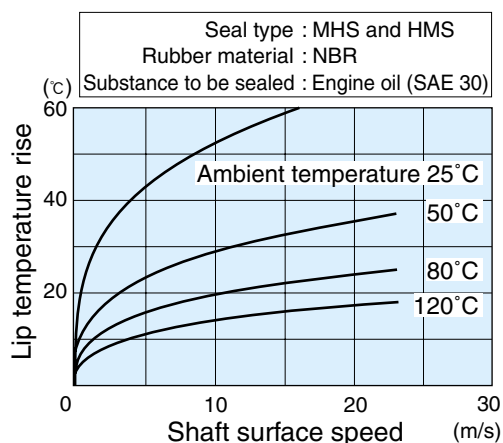

Fig. 1.6.2 Estimated lip temperature rise curves
- ② Determine the supposed ambient temperature
- ③ Find the point at which the ambient temperature curve meets the calculated shaft surface speed in Fig. 1.6.2
- ④ Read the ordinate value of the point
- ⑤ Obtain the estimated lip temperature by the sum of the ordinate value and ambient temperature
In Fig. 1.6.2, the cross of the curve for ambient temperature 80 °C and shaft surface speed 10.5 m/s indicates that the lip temperature rise will be 20 °C.